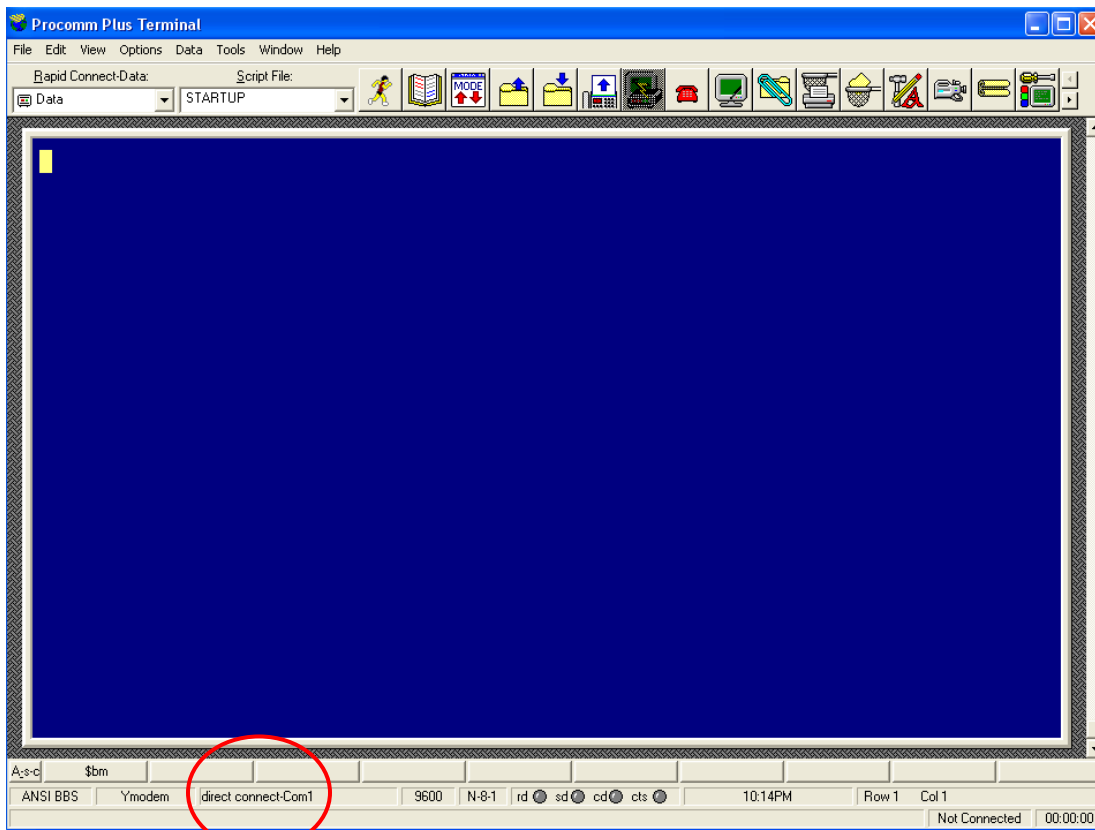

Figure 13
1. Connect the computer to the sensor via an RS232 cable. Start Procomm and set the system to use Direct Connect COM 1 (bottom left of screen) using a baud rate of 9600, 8 bits, no parity, and 1 stop bit as shown in fig. 13. For computers that do not have a serial port, select the correct COM port in Procomm for the USB port that has the serial adapter.